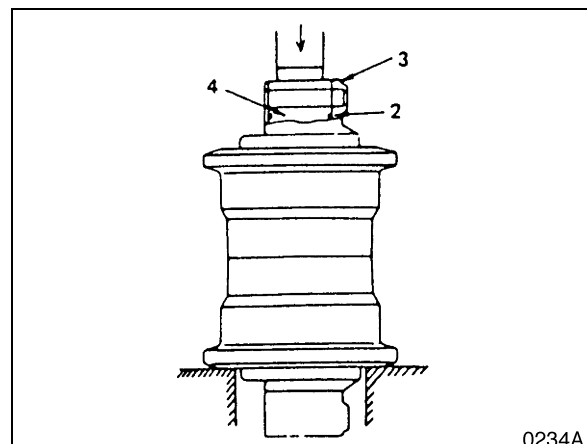

Figure 32
3. Separate collar (3, Figure 32) from the axle, using a press.